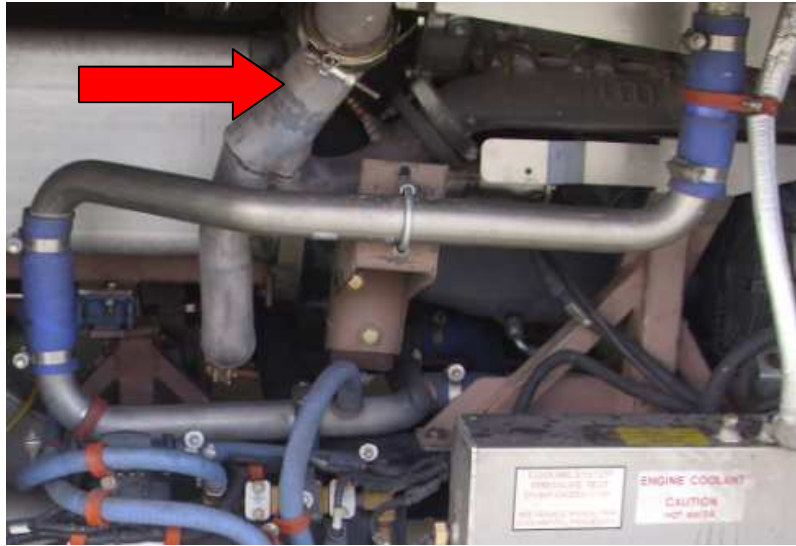

Figure 37: Installed Mounts
- d. Re-install the Y-Pipe assembly by reversing the steps found in 5a. See Fig 37.